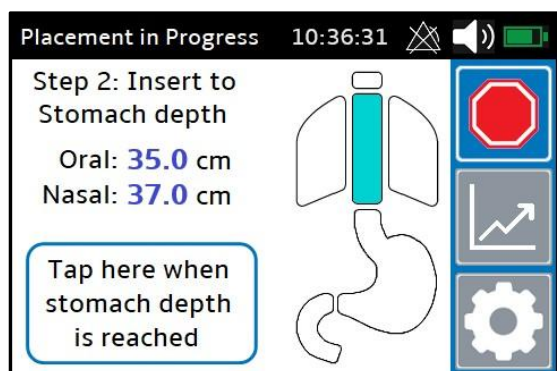

Figure 10: Insert to Stomach Depth
- If the feeding tube appears to be properly placed in the esophagus, the monitor instructs the user to continue insertion to the stomach at the recommended depth calculated from the patient's Height (Figure 10).